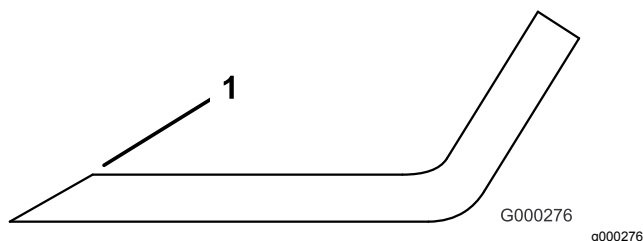

Figure 90
3. Examine the cutting edges of all of the blades and sharpen the cutting edges if they are dull or nicked (Figure 90).
Note: Sharpen only the top of the cutting edge and maintain the original cutting angle to ensure sharpness (Figure 90). The blade remains balanced if the same amount of metal is removed from both cutting edges.